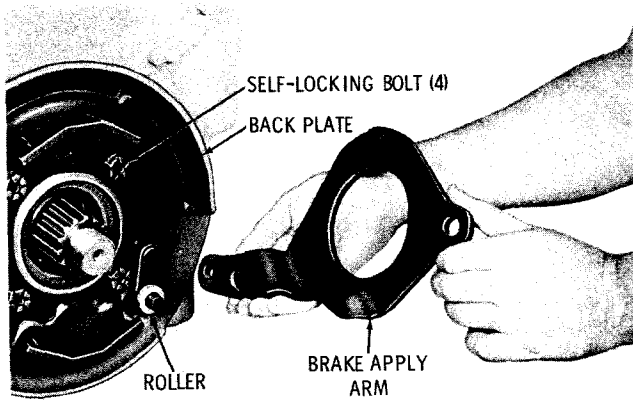

Fig. 7-43. Installing brake apply arm
(2) Install the spacer roller onto the back plate lever, and install the brake apply arm (fig. 7-43).